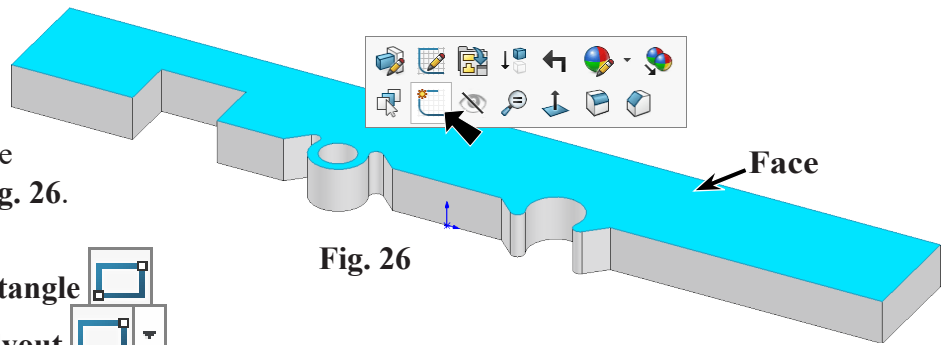

Fig. 26
Step 1. Click the **top face** and click **Sketch** on the context toolbar, Fig. 26.